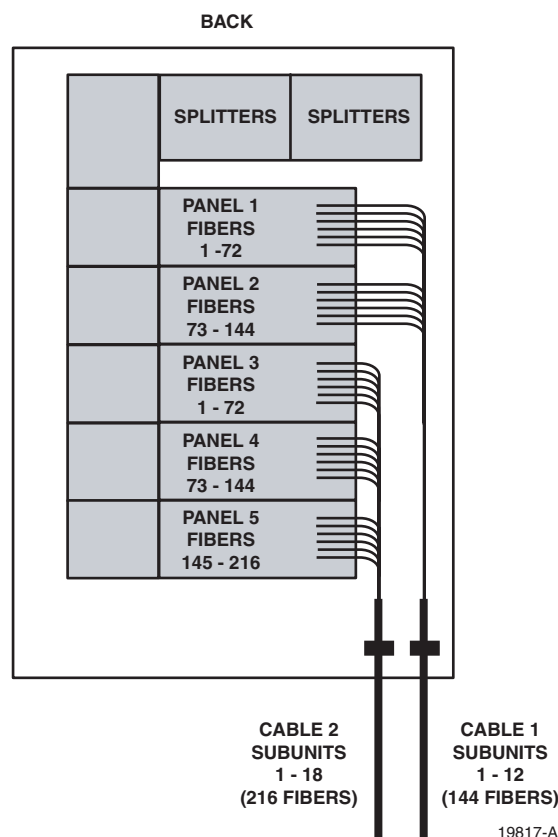

**Figure 32. Routing Subunit B Around Front Side of Splice Tray**
8. Secure **subunit B** to the splice tray at the points shown in Figure 32. If multiple fibers are being installed, route all fibers simultaneously.
9. Adjust subunit B so the fiber breakout is positioned at the point shown (see Figure 32).